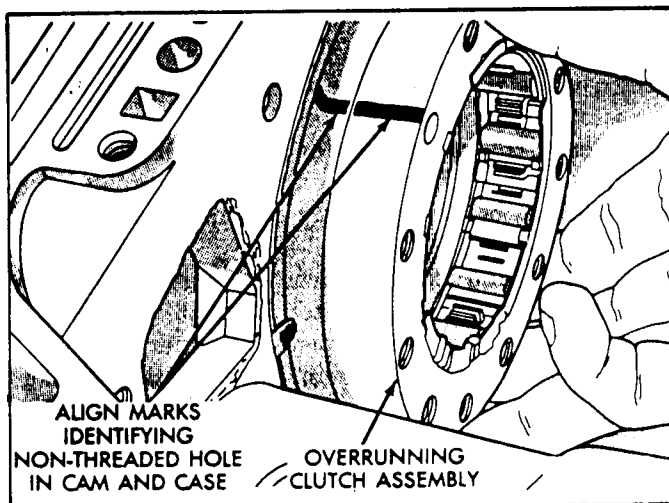

Figure 36
16. Align and install overrunning clutch and cam into transmission case (See Figure 36).
19. Verify that your marks are aligned as shown in Figure 36.